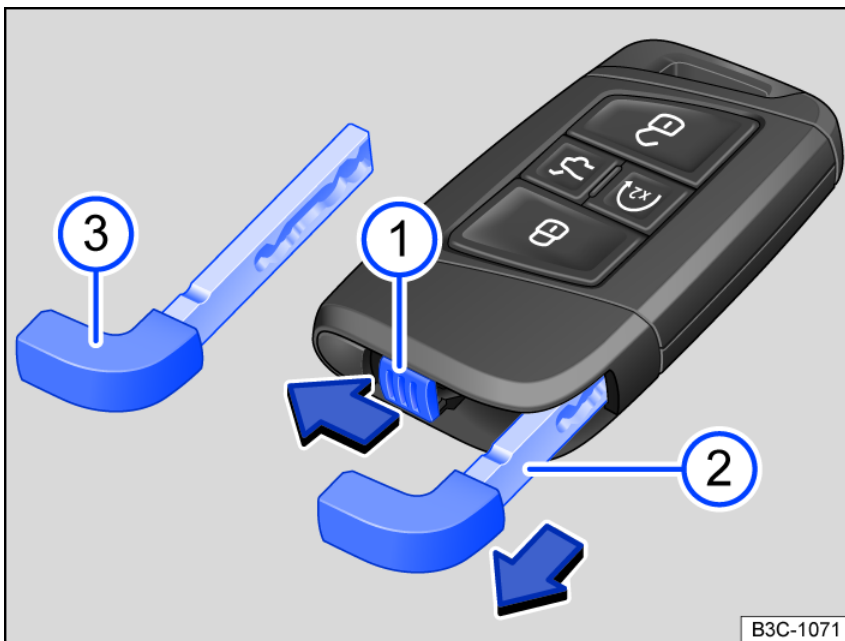

Fig. 50 Vehicle key: releasing the emergency key.
There is an emergency key *fig. 50* (3) located in the vehicle key that can be used to manually unlock and lock the vehicle.